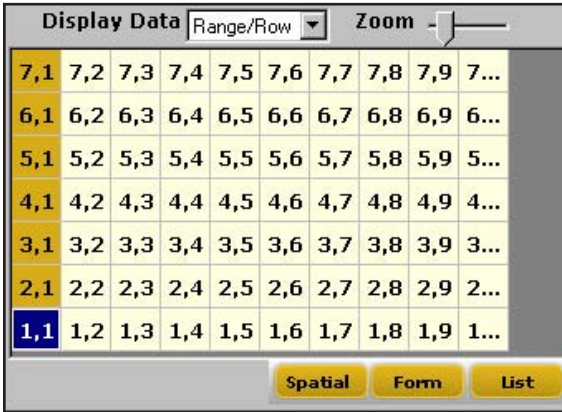

Figure 7-4: Row 1, Range 1 is selected in the Collect Data Spatial portion of the screen
8. Choose the starting plot location by clicking on the cell. In Figure 7-4, the selected cell is Row 1, Range 1. After you click on the starting plot cell, the screen shows the combine's current location in the field and which plots have already been harvested.